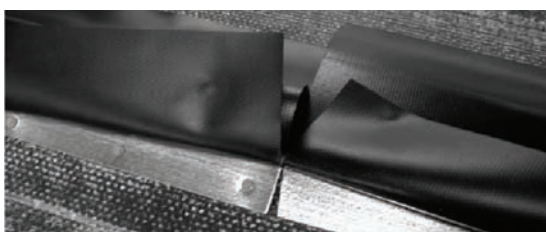

Figure 3
5. Measure, cut and install expansion joint cover sections so that all adjoining bellows sections butt tightly together. Trim back the nailers slightly to prevent overlapping materials and to permit a snug, end-to-end butt joint at the foam bellows (Figure 3).